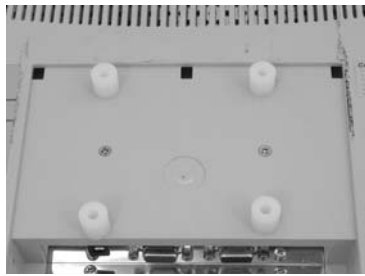

Figure 6
2. For displays with a recessed mounting surface, place four 5 X .194 ID X .0375" Nylon spacers over four mounting holes (see Figure 6).